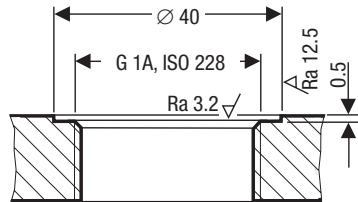

Fig. 6
- The seating surfaces of the standpipe or the flange provided on the vessel must be accurately machined, **Fig. 6!**
6. Check the sealing surfaces. **Fig. 6**
7. Place supplied joint ring **23** onto seating surface of the threaded standpipe or flange. **Fig. 6**